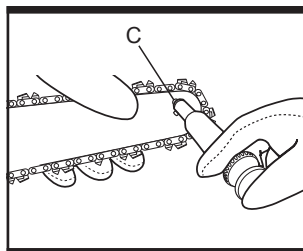

Fig. 15
3). Using disposable lube gun, insert needle nose into the lubrication hole (C) and inject grease until it appears at the outside edge of the sprocket tip. (See Fig.15)